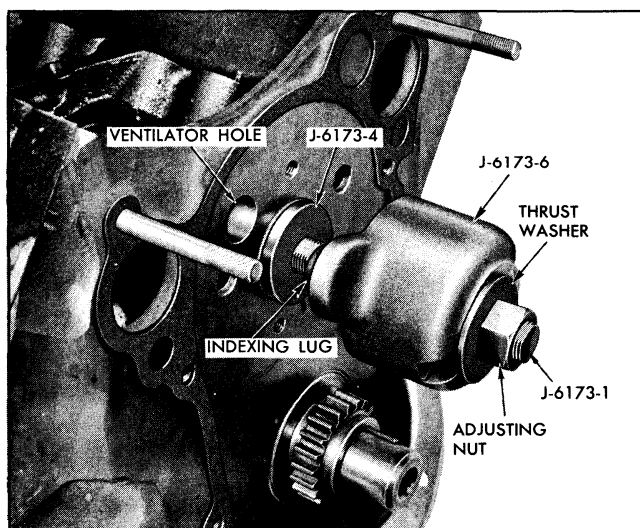

Fig. 6-48 Positioning Index Collar
1. Insert remover adapter J-6173-4 into front bearing to act as a support for shaft J-6173-1 (Fig. 6-48).
3. Place indexing collar J-6173-6 on threaded end of shaft with open side toward unthreaded end and start thrust washer and nut on shaft (Fig. 6-48).
4. Insert shaft and indexing collar through remover and replacer adapters and position lug on indexing collar in ventilator hole in front of block (Fig. 6-48). This indexes the shaft so that it cannot rotate.
6. Insert shaft with indexing collar, thrust washer, and nut through remover, pilot and replacer adapters and index lug on collar with ventilation hole in front of block (Fig. 6-48).